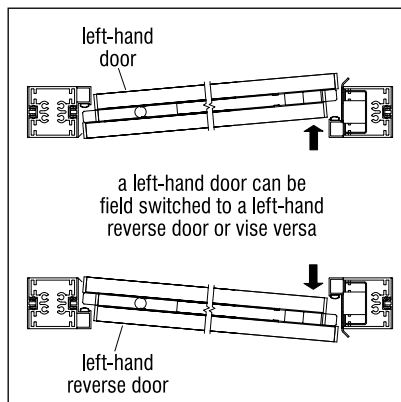

Figure 1a - Left-Hand Doors
1. See Figure 1a and 1b for possible combinations of field reverse handing.